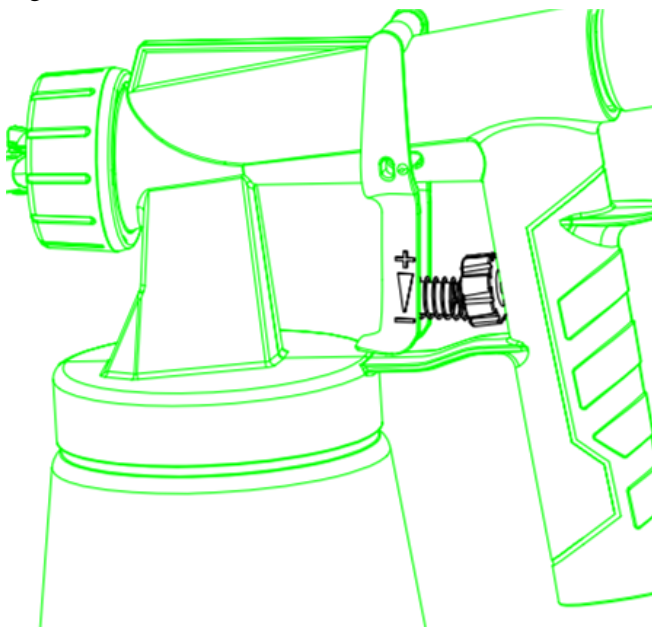

Fig 9
- **Incorrect (Fig. 9 b)** · Heavy spray fog build-up, uneven surface quality.
- When coating material builds up on the nozzle (A) and air cap (B), clean both parts with a solvent or water.